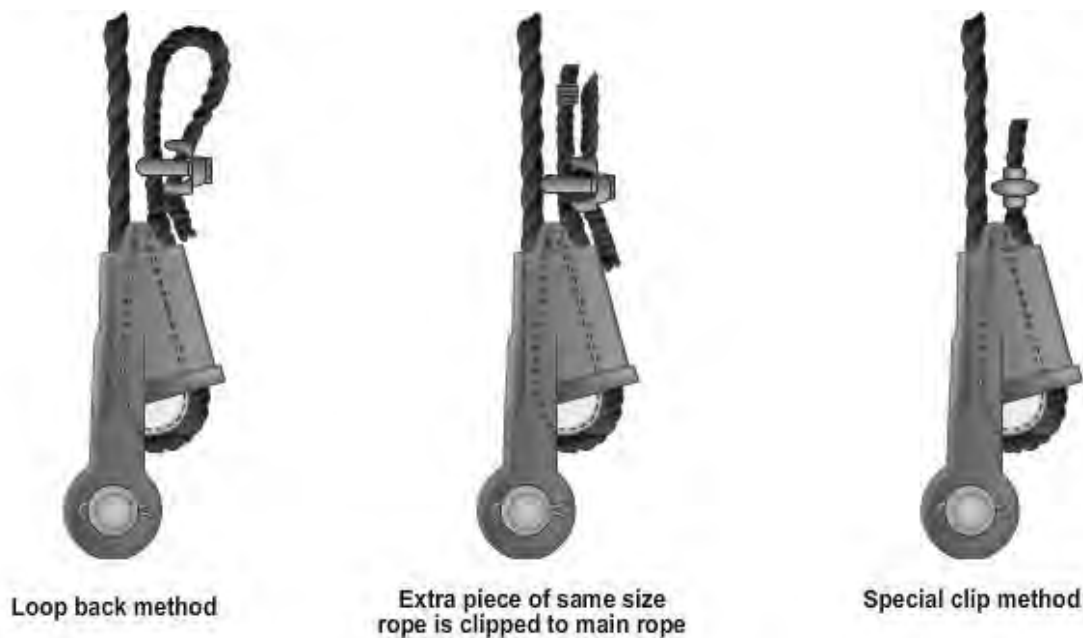

Figure 21-68 – Wedge socket methods.
- Step 2. Exercise caution in installing the wedge socket properly to ensure that the wire rope carrying the load is in direct alignment with the eye of the socket clevis pin so the load pull is direct (*Figure 21-68*).
- Step 3. Place the socket in upright position and bring the rope around in a large, easy to handle hoop. Extend the dead end of the wire rope from the socket a sufficient distance to secure the dead end in either of the ways shown earlier in *Figure 21-68*. Be sure the minimum tail length extending from the wedge socket is in accordance with the socket OEM's guidelines. (Note: Tail lengths for rotation resistant wire rope are normally greater than for standard 6 to 8 strand wire rope.) Insert the wedge into the socket permitting the rope to adjust around the wedge.
- Step 5. Secure the dead end as shown earlier in *Figure 21-68*. Alternatively, you may use approved double saddle clips specifically designed for wedge sockets and special wedge sockets specifically designed for use with single saddle clips.